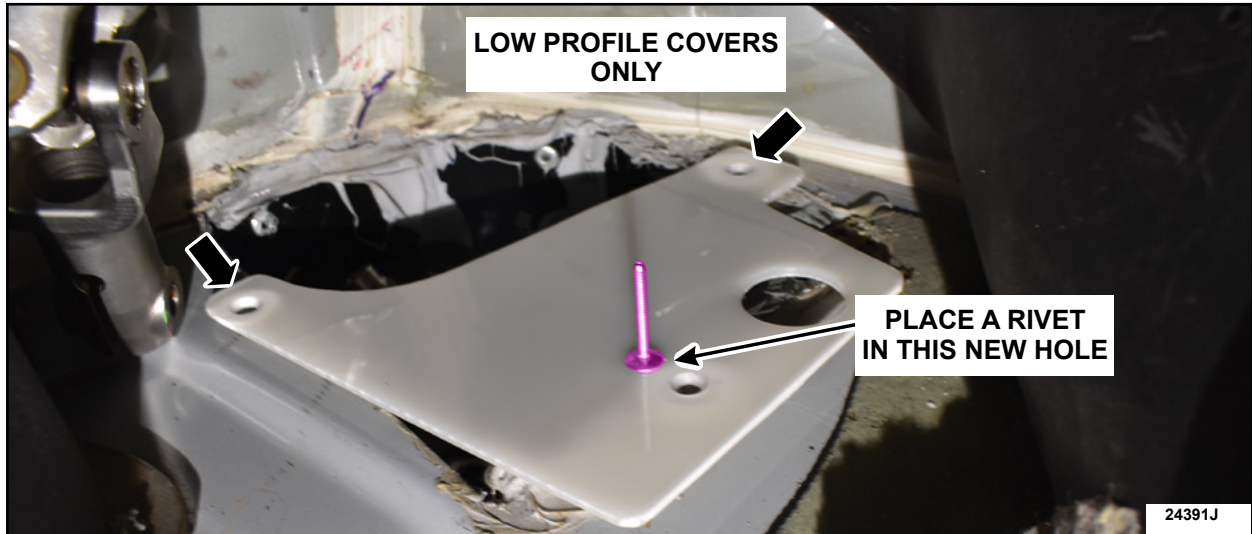

FIGURE 10
16. **For Low Profile Covers Only**, using the plastic plate in the parts kit, measure and mark the location 0.5 in. (13mm) from the original hole as shown in Figure 10. Using a 0.2 in. (5mm) drill bit, drill the hole as shown in Figure 9.
17. **For Low Profile Covers Only**, lay the plastic plate over the steering column shaft body opening and insert/place one of the provided rivets in the *new* hole as shown in Figure 10.
18. **For Low Profile Covers Only**, using a 0.2 in. (5mm) drill bit and the other two (2) pre-drilled holes in the plastic plate as a template, drill out the other two (2) holes. See Figure 10.